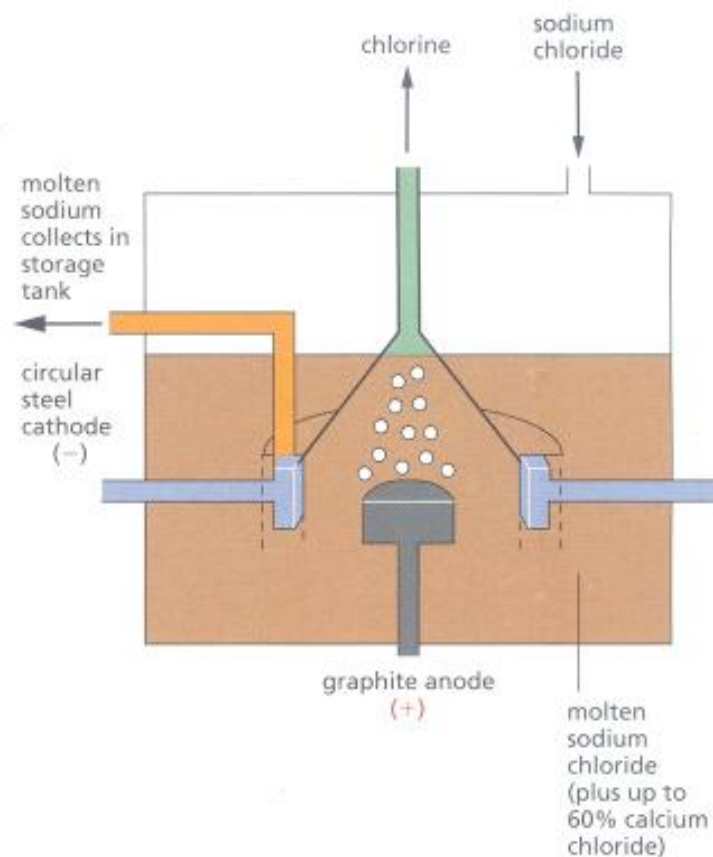

Figure 6.10 The Down's cell used for the electrolysis of sodium chloride.
- The mixture is then electrolysed in a cell similar to the one in Figure 6.10.